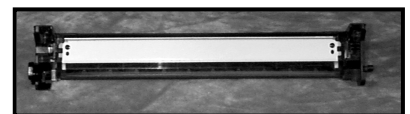

Figure 3
4. Remove the two screws securing the wiper blade (Fig. 3). Vacuum residual toner from the waste hopper. Inspect, lubricate and reinstall the wiper blade; replace if necessary (PN# H5WB10). If damaged, remove the recovery mylar from the waste hopper. Be sure to Remove **all** adhesive from the recovery blade mounting surface. Carefully apply a new recovery blade (PN# H5RB10) to the waste hopper ensuring there are no kinks in the blade.